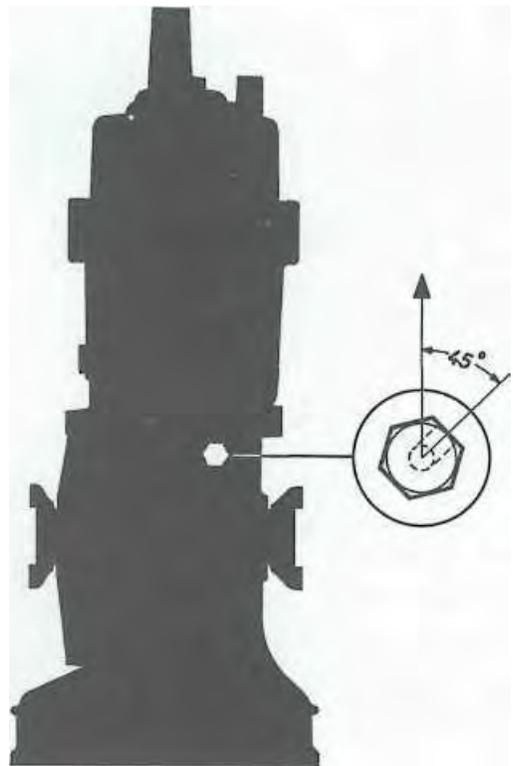

Fig. 107
2. Screw breather in while noting the proper position of the vent bore (see Fig. 107).